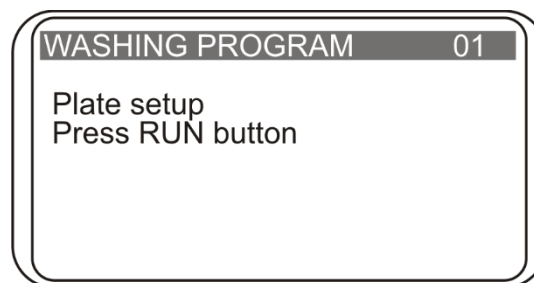

Fig. 9. Manifold lowering depth identification
- 4.20.1. Press the **Enter** key in the start mode, the following message appears on the display (fig.9).